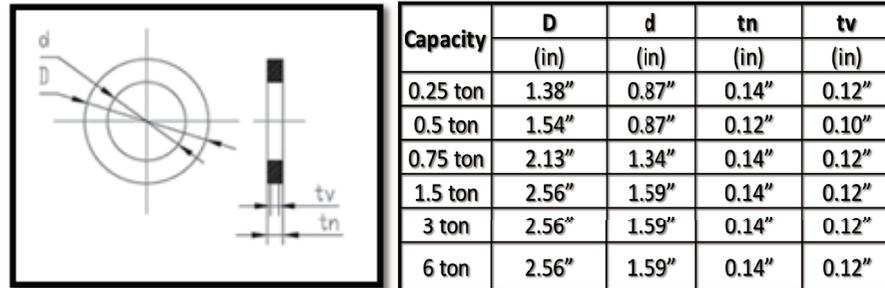

FIG 14
- Annual inspection of the brake disk should be performed to ensure brake disk is within the allowable standards as shown in (FIG 14).